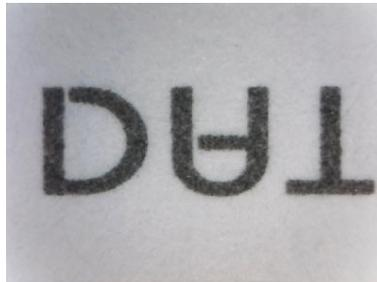

Fig.3-21 Video image do vertical flip
- ⊕ Vertical Flip “” : The video image upside down 180 degree, which is vertical flip, shown in Fig.3-21.